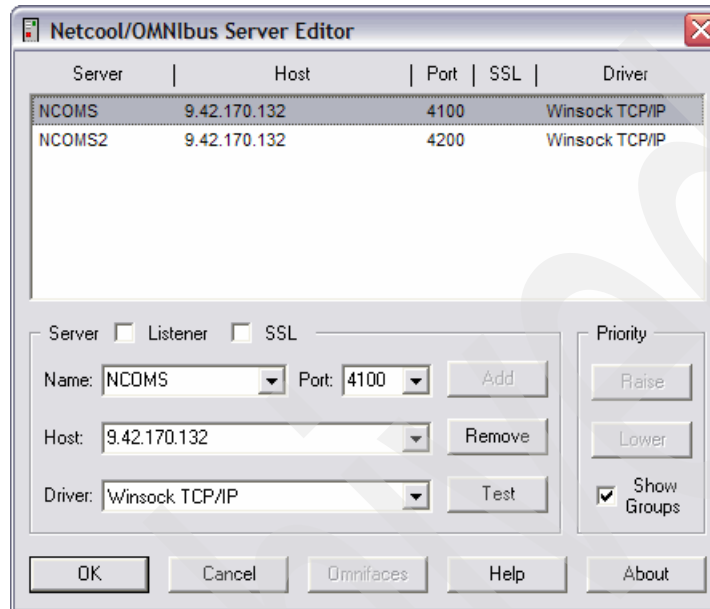

Figure 4-7 IBM Tivoli Netcool/OMNIBus Server Editor
7. After the reboot, start the Server Editor by selecting **All Programs** → **Netcool Suite** → **Server Editor**. Create an entry for the ObjectServer in the Server Editor window on the remote desktop, as shown in Figure 4-7. If failover is enabled, then you must also specify the backup ObjectServer.